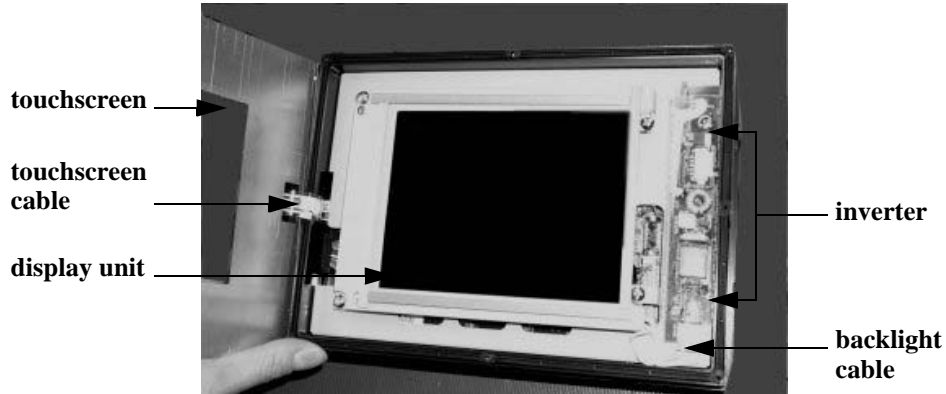

Figure 2 Touchscreen Removed
10. With the touchscreen cable still connected to the CPU board, lay the touchscreen aside as shown in *Figure 2* below.
11. Disconnect the backlight cable from the inverter. See *Figure 2* for the location of the backlight cable.